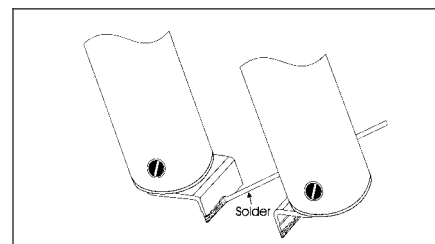

Figure 2 Tin Tips
6. Tin bottom and inside edges of tips with solder. (See Figure 2.)